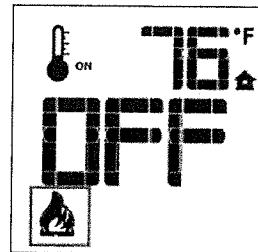

Figure 7.6 Burner OFF.
- Press the ON/OFF Key. The display will show only the room temperature and icon. At the same time, the Receiver will deactivate the call for heat and the burner will shut down. Fig. 7.6. A single "beep" from the Receiver will confirm reception of the command.